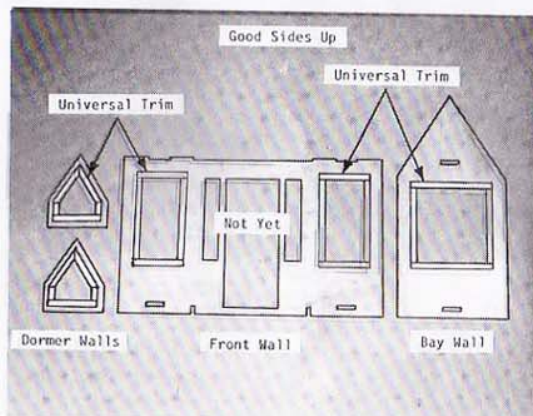

Figure 1
1. Locate the walls with windows, including **Bay Wall, Front Wall, and Dormer Walls** (Sheet AH-3,4,7). Lay the parts on a table with the good sides up. Cut to fit **Universal Trim** to surround all window openings **except** the door opening and door side windows. See Figure 1.